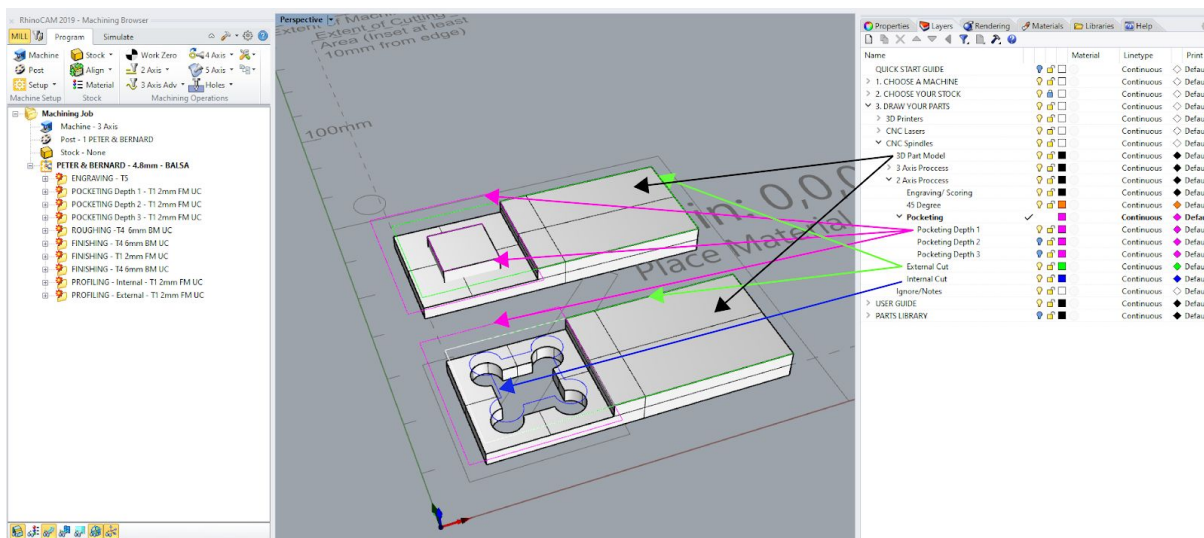

Fig 3.1
- A 3D model* of each part of your joint set out in one file. The example below in Fig 3.1 is very basic we expect more creativity. For ideas on designing your joint either come down to the lab to see past examples or 'google' 'cnc wood joints' for ideas.